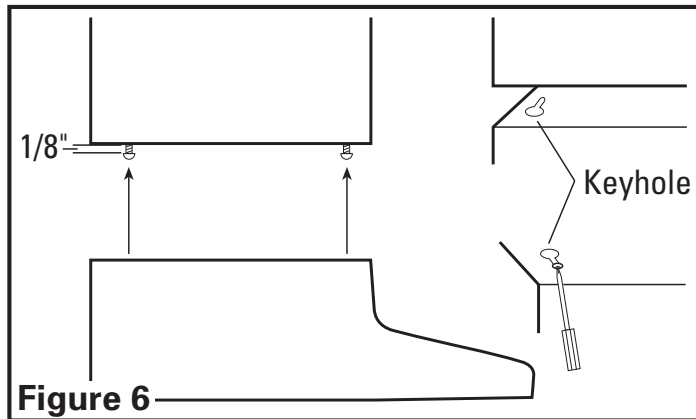

Figure 6
4. Install the 4 mounting screw at the previously marked locations. Leave approximately 1/8" clearance. Slide the hood in place through the keyhole slots and align the front of the hood so that it is flush with the front of the cabinets. Tighten all screws securely (**Figure 6**).